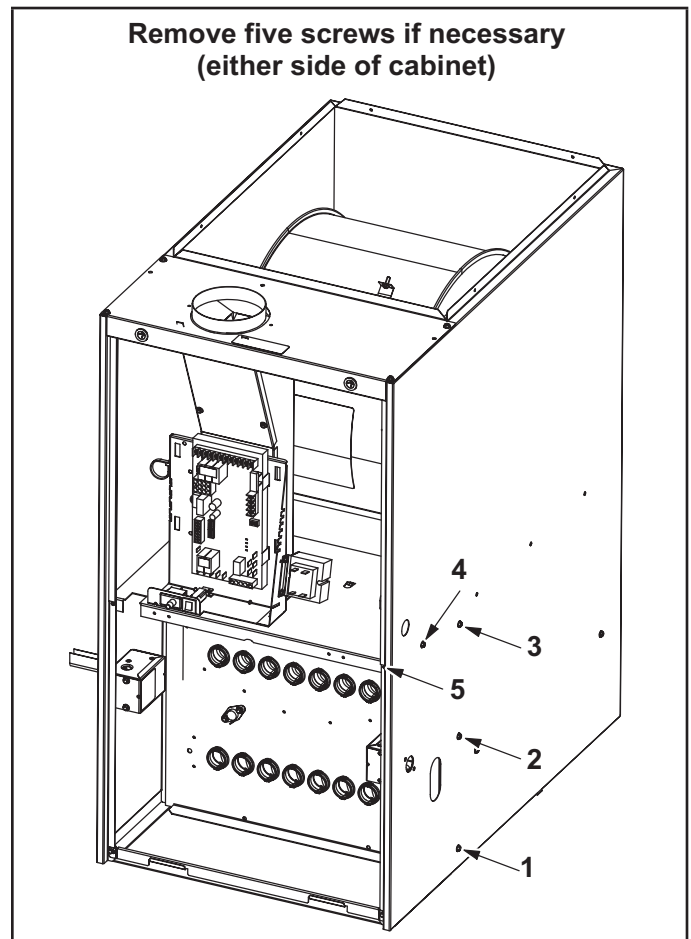

FIGURE 24
- 7 - Remove heat exchanger. It may be necessary to spread cabinet side to allow more room. If so, remove five screws from the left side or right side of cabinet. See FIGURE 24.